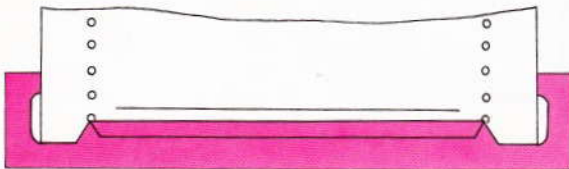

Fig. 26
- Turn the card feed dial towards you so as to bring the start line of the card level with the card slot. The figure 1 will show (fig. 26).